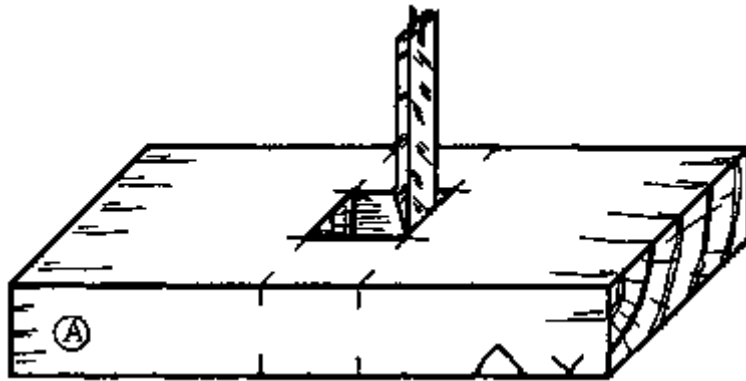

Fig. 7
- Carefully chop out the rest of the mortice up to the lines (Fig. 7). Keep the bevel of the chisel towards the inside of the mortice. Do not use the mallet.